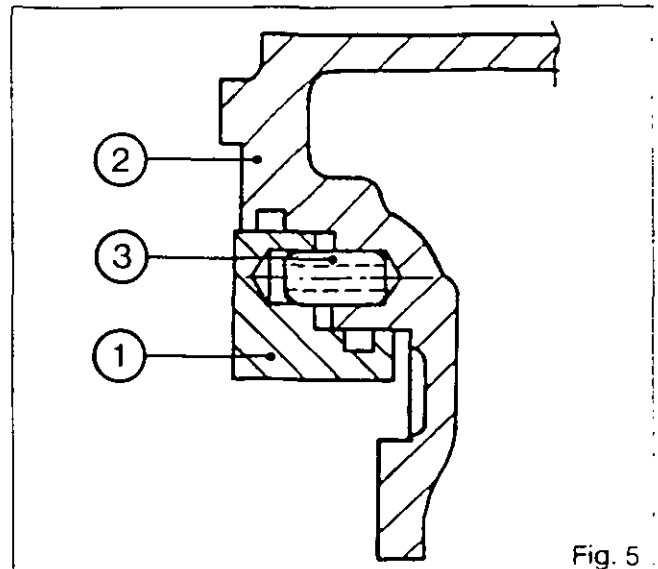

Fig. 5
8. Fit the piston (1) without seals in the housing (2) (Fig. 5).
**Note:** Check that the piston slides freely in the bore of the housing and over the dowels (3) without binding (Fig. 5).